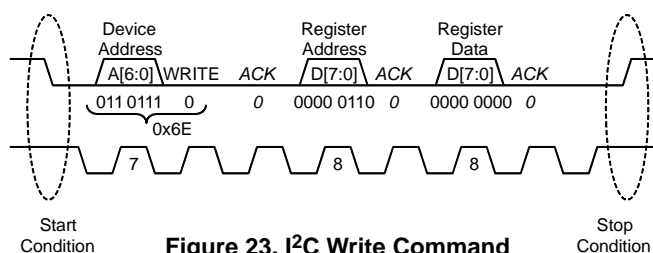

Figure 23. I2C Write Command
Figure 23 shows an I2C write operation. Write transactions begin with the master sending an I2C start sequence followed by the seven bit slave address (NOA3315 = 0x37) and the write(0) command bit. The NOA3315 will acknowledge this byte transfer with an appropriate ACK. Next the master will send the 8 bit register address to be written to. Again the NOA3315 will acknowledge reception with an ACK. Finally, the master will begin sending 8 bit data segment(s) to be written to the NOA3315 register bank.